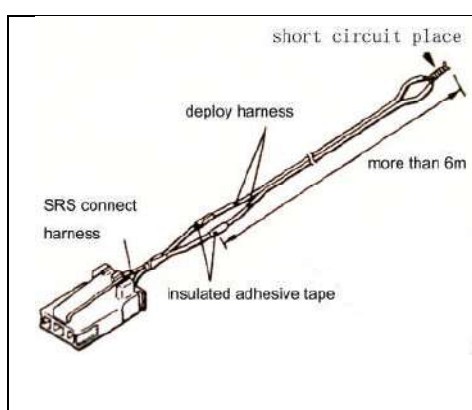

Fig 19-40
- ① Remove the glove box.
- ② Disconnect the front passenger's air bag module 2-pin connector (red) and instrument panel wiring harness connector(2-pin,red).(See fig 19-40)
- ③ Connect deployment harnesses longer than 6m to each SRS air bag adapter harness and insulate the connections with plastic tape. (See fig 19-40)